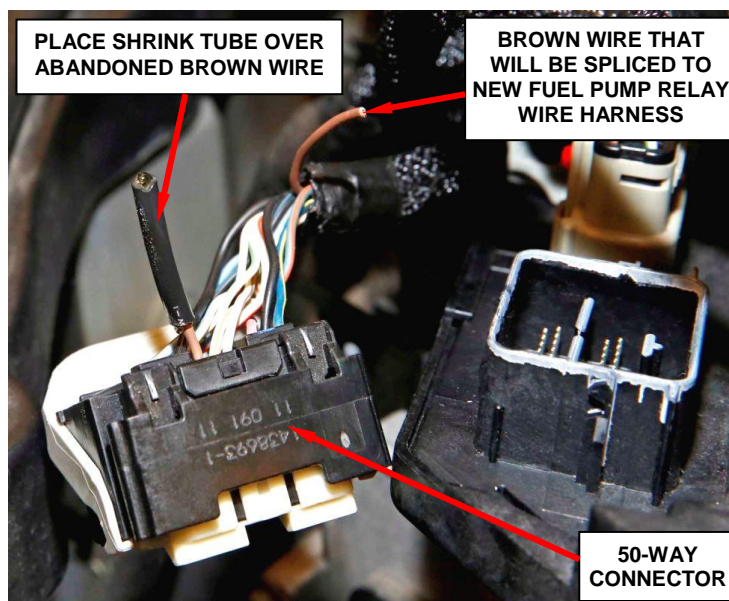

**Figure 7 – Cut the Brown Wire One Inch From Connector**
9. Cut the brown wire one inch (25 mm) from the 50-way electrical connector (Figure 7).